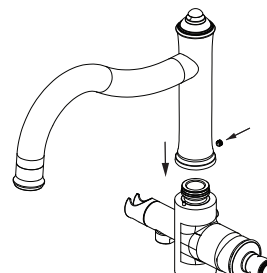

Figure 29
10. If spout is packaged separately, attach the spout to tub filler body. Align the spout with pin in the tub filler body and tighten the set screw as shown in Figure 29.